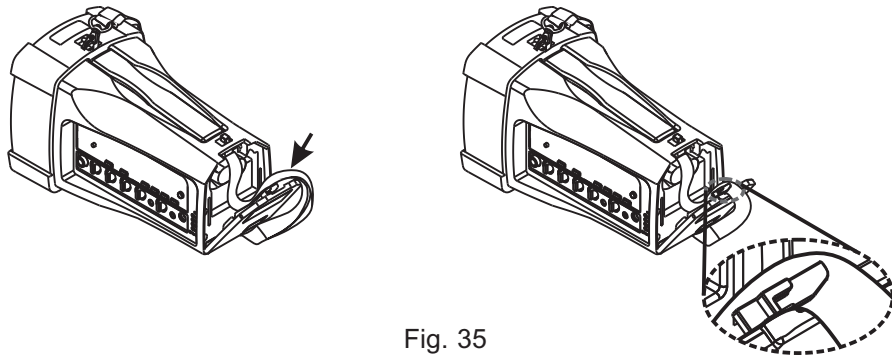

Fig. 35
(E) Push latch to OPEN position and simultaneously align the shoulder belt between the groove of battery compartment cover, Fig. 35.